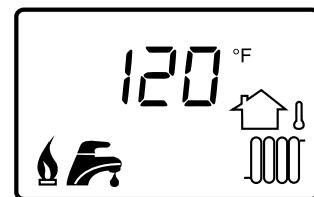

Figure 15-8: Home Screen While Running
7. If successful ignition, display will show flame icon (Figure 15-8)